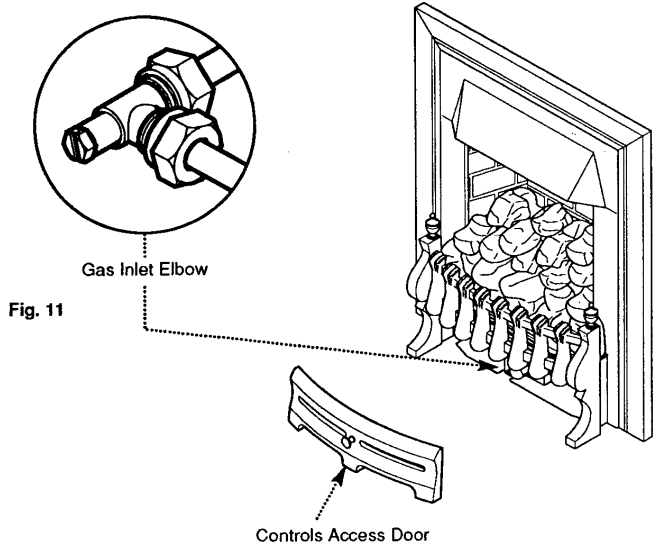

Fig. 11
2. The supply is to be a concealed connection, it is advisable to route the supply to the left side of the unit taking into account the requirements of BS 6891:1988 dealing with enclosed pipes. An 8mm restrictor elbow can be positioned under the fire on the left hand side with a compression connection at each outlet. The pipe can then be routed to the inlet elbow. (Fig. 11)